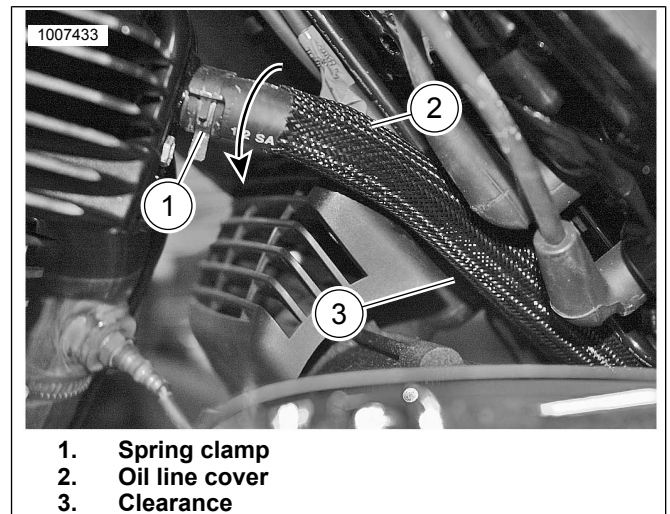

Figure 8. Rear Oil Line Cover
1. See Figure 8. Install rear oil line hose cover.